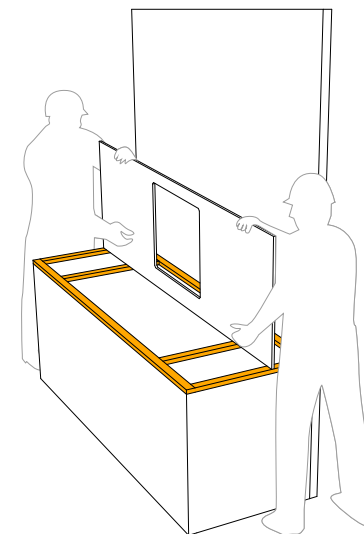

fig. 1
- Position the countertop vertically, leaning it against the wall of the kitchen units (fig. 1);
- Apply silicon evenly to the supporting crosspieces to ensure that the slab adheres perfectly (fig. 1);